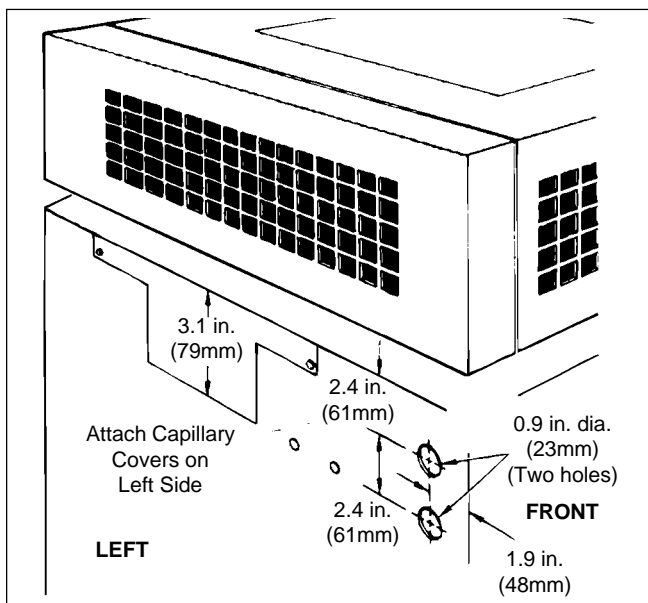

Figure 20. Hole Location, Left Side.
16. Use a chassis punch to put two $\frac{7}{8}$ inch (22mm) holes in the front left side of the jacket (see Figure 20).